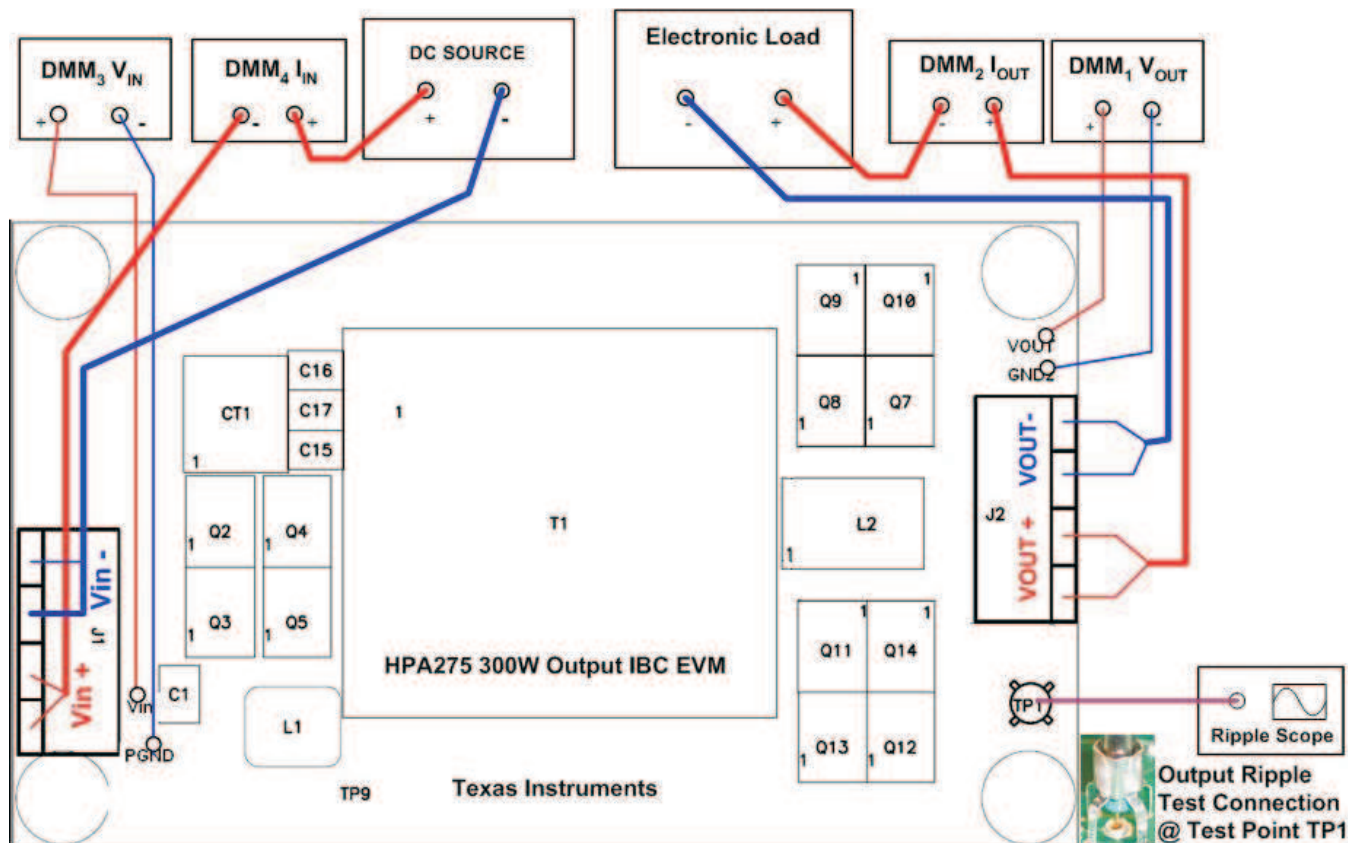

Figure 3. Test Set Up for EVM Operation
Output Load: A programmable electronic load is recommended configurable for constant current mode and capable of sinking 0 to 35 A_{DC} from 8 V_{DC} to 11 V_{DC}. The output voltage can be monitored by connecting a dc voltmeter, DMM1 to sense pins (TP23 and TP24) shown in Figure 3. A dc current meter, DMM2, may be inserted in series with the electronic load for accurate output current measurements. Similarly, the input voltage can be monitored by connecting a dc voltage meter to sense pins (TP10 and TP11). The input current can be monitored by a dc current meter too. These are shown in Figure 3.
- a. Prior to connecting the dc input source, limit the source current 6.5 A maximum. Make sure the dc source is initially set between 43 V_{DC} and 53 V_{DC} prior to turning on. Connect the dc source to the EVM as shown in Figure 3.
- b. Connect the power meter as shown in Figure 3.
- c. Connect the current meters DMM2 and DMM4 as shown in Figure 3.
- d. Connect the volt meter DMM1 and DMM3 as shown in Figure 3.
- e. For operation with a load, connect the electronic load to the EVM as shown in Figure 3. Set the LOAD to constant current mode with initial value of 0 A.
Setup the EVM with equipment as shown in Figure 3 and following the test set up directions described in Test Setup Section.
Along with the measurement of line and load regulation, the output voltage ripple can be measured at the same time. The method of tip-and-barrel should be used for the output voltage ripple measurement. The EVM provides such type of test point to facilitate the measurement for the type of oscilloscopes from Tectronix as shown in Figure 3. Reference test results of the output voltage ripple can be found in Performance Data and Characteristic Curves Section.